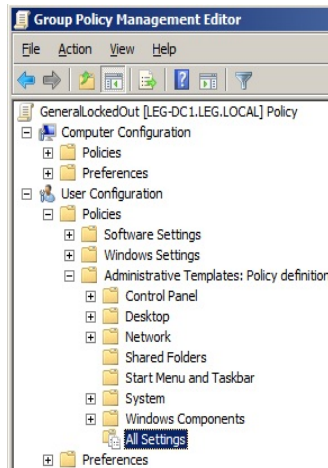

Figure 39. Group Policy Dialog Box
- b. A new dialog box will appear. Expand the GeneralLockedOut structure according to Figure 39.